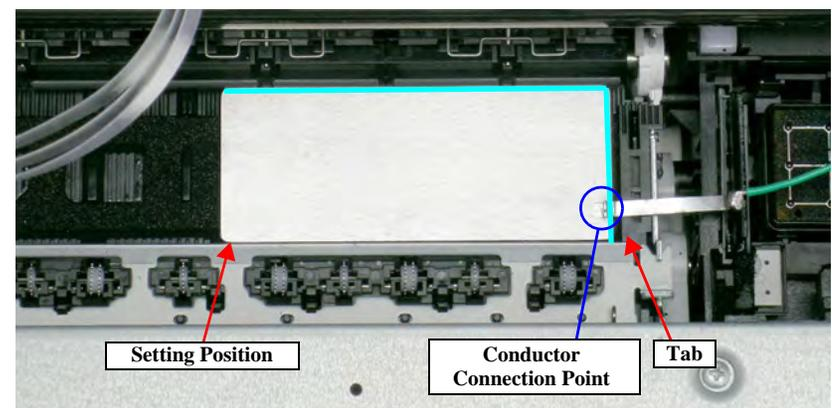

Figure 5-17. Setting the Adjustment Gauge
- Right direction: Release the right end of the Gauge from the Tab on the Front Paper Guide in *Figure 5-17*.